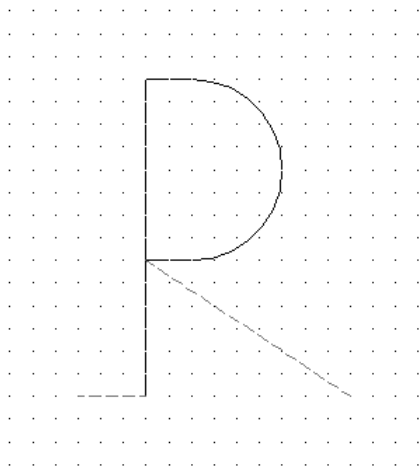

Figure 32-7: An uppercase P.
2. Save the file as ab32-01.dwg in your AutoCAD Bible folder. This drawing shows an uppercase P, with dashed lines to indicate space before and after the letter, as shown in Figure 32-7. This is the type of drawing that you might use as a basis for creating a shape definition.